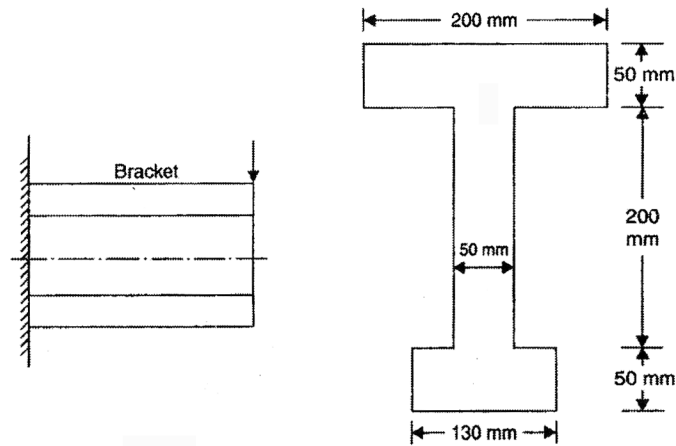

Fig. 4
3. (a) A cast iron bracket subject to bending has the cross-section of I-form with unequal flanges. The dimensions of the section are shown in Fig. 4. Find the position of the neutral axis and moment of inertia of the section about the neutral axis. If the maximum bending moment on the section is 40 MN mm, determine the maximum bending stress. What is the nature of the stress ? [6]